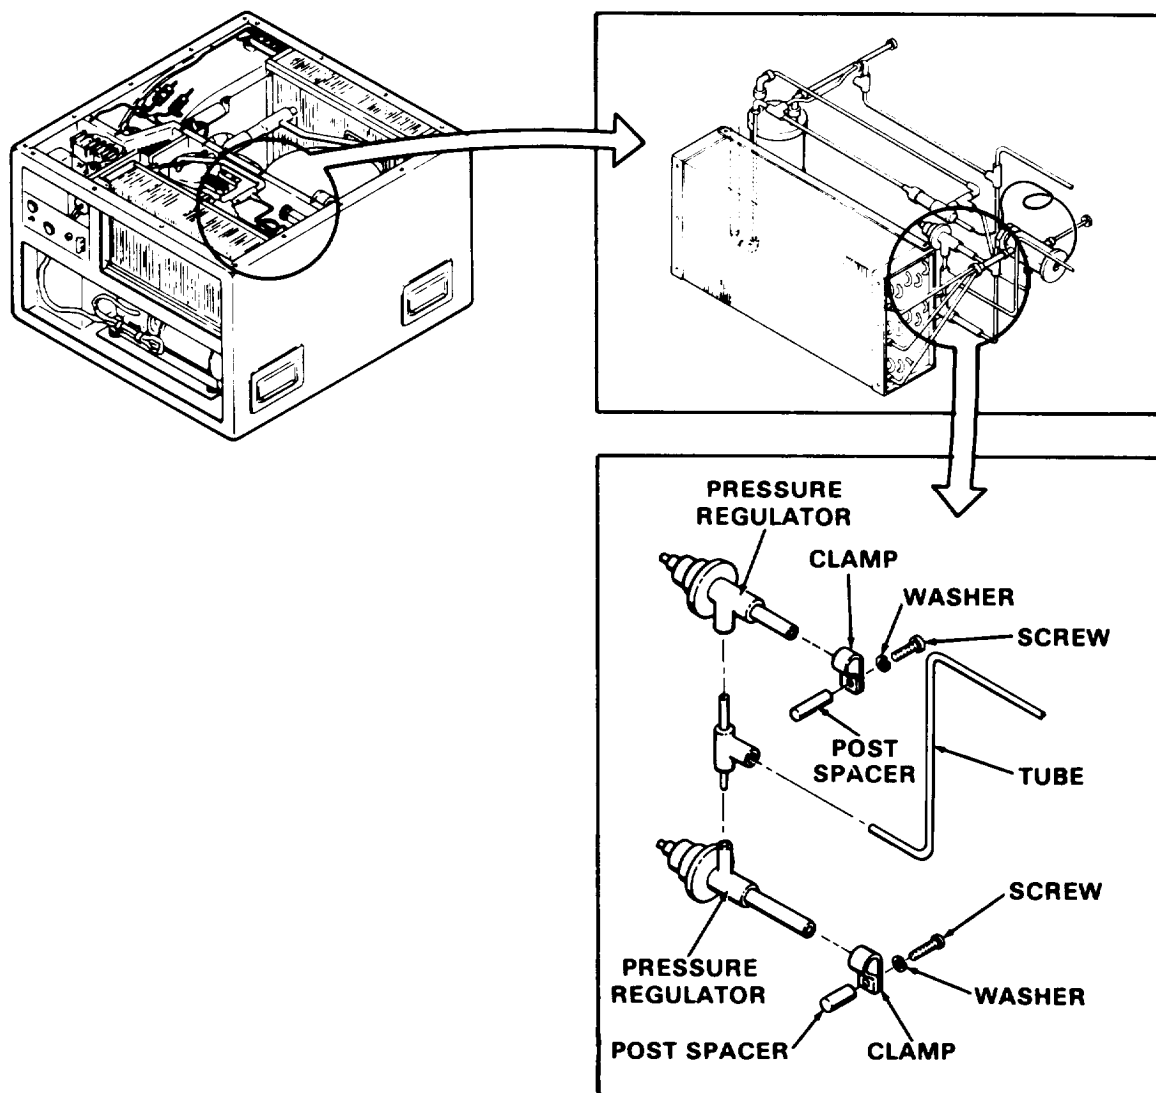

Figure 5-11. Fluid Pressure Regulator Valve
- (1) Refer to paragraph 6-3 and discharge the refrigerant system.
- (2) Refer to paragraph 4-18 and remove the air conditioner top rear cover.
- (3) Refer to figure 5-11 and unclamp the regulator valve sensing bulb.
- (4) Remove the regulator valve mounting clamp.
- (5) Unsolder the regulator valve from the refrigerant system tubing. Remove by drawing the bulb through the compartment wall.
- (1) Refer to figure 5-11 and mount the fluid pressure regulator against the compartment wall using the mounting clamp.